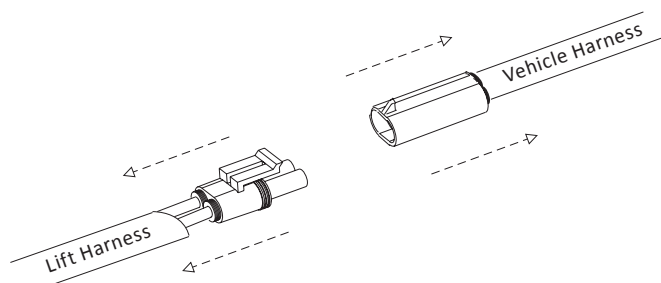

Figure 7-2
1. Unplug power to the lift. **See Figure 7-2.**